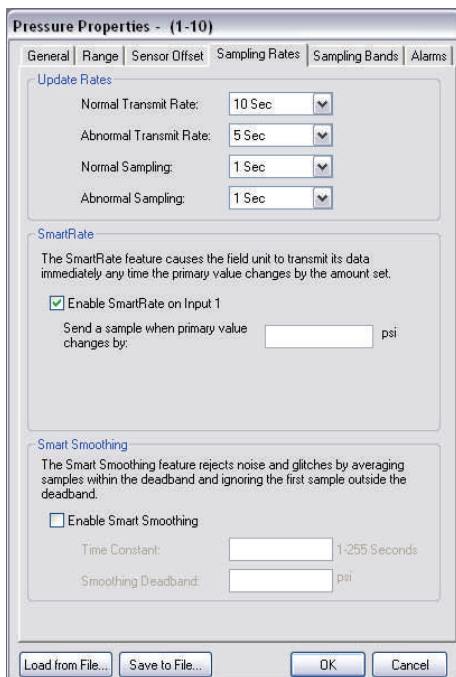

Figure 6.9: Smart Rate Configuration Using Wireless Management Toolkit
2. Click on the **Sampling Rates** tab to display the sampling rate information as shown in Figure 6.9.